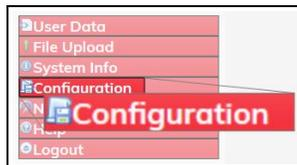

Figure 158: Configuration link
4. On the **Menu** list, click the **Configuration** link. Figure 158